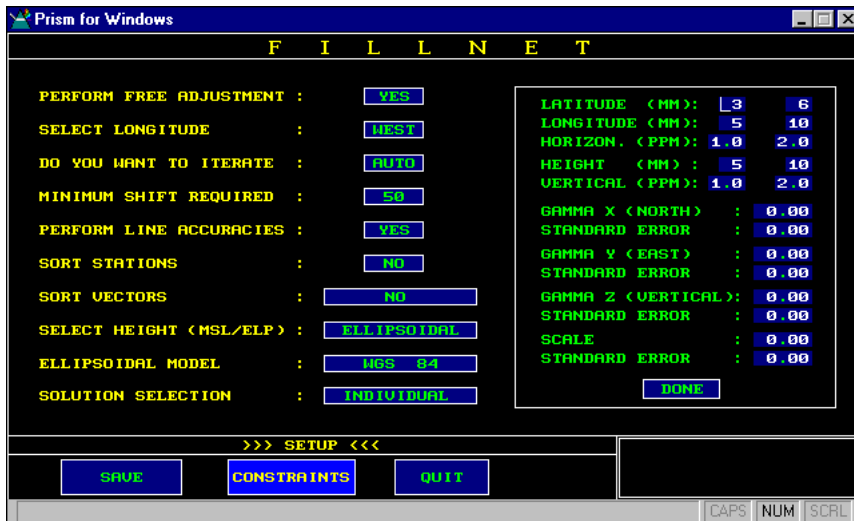

Figure 3.8: CONSTRAINTS Menu
15. Click on **CONSTRAINTS**. The **CONSTRAINTS** menu, Figure 3.8 will appear.